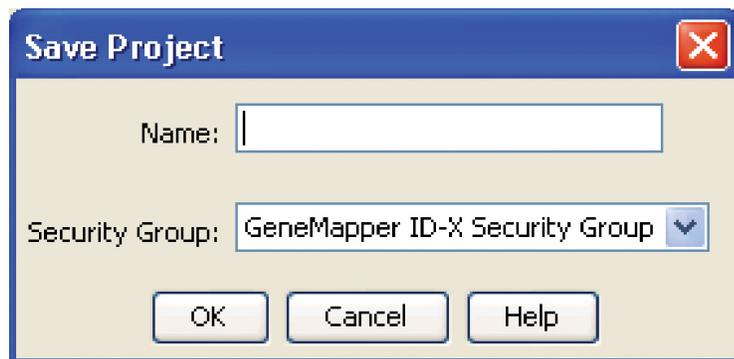

Figure 25. 'Save Project' Window.
9. If all analysis requirements are met, the 'Save Project' window will open (Figure 25).